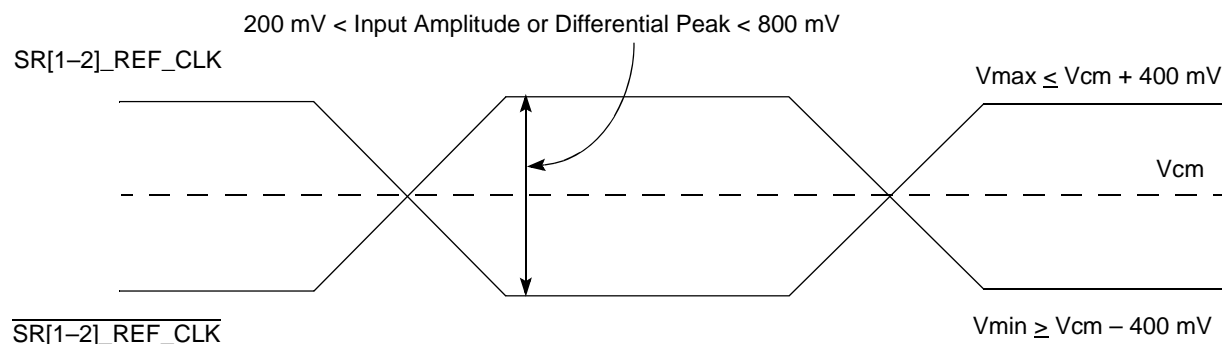

Figure 8. Differential Reference Clock Input DC Requirements (External AC-Coupled)
- For an external AC-coupled connection, there is no common mode voltage requirement for the clock driver. Because the external AC-coupling capacitor blocks the DC-level, the clock driver and the SerDes reference clock receiver operate in different command mode voltages. The SerDes reference clock receiver in this connection scheme has its common mode voltage set to GND_{SXC} . Each signal wire of the differential inputs is allowed to swing below and above the command mode voltage GND_{SXC} . Figure 8 shows the SerDes reference clock input requirement for AC-coupled connection scheme.